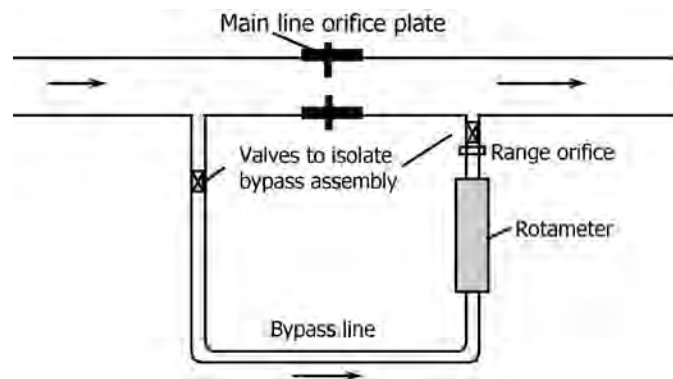

FIGURE 4.21 Rotameter installed in a bypass line around an orifice plate in the main line.
- Rotameter can be installed in a bypass line around an orifice plate in the main line as shown in Figure 4.21.